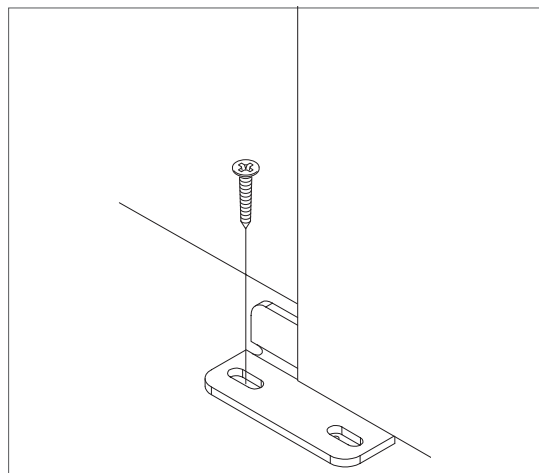

Figure 14
17. Position the Door Guide part way into the groove in the bottom of the door (Figure 14).